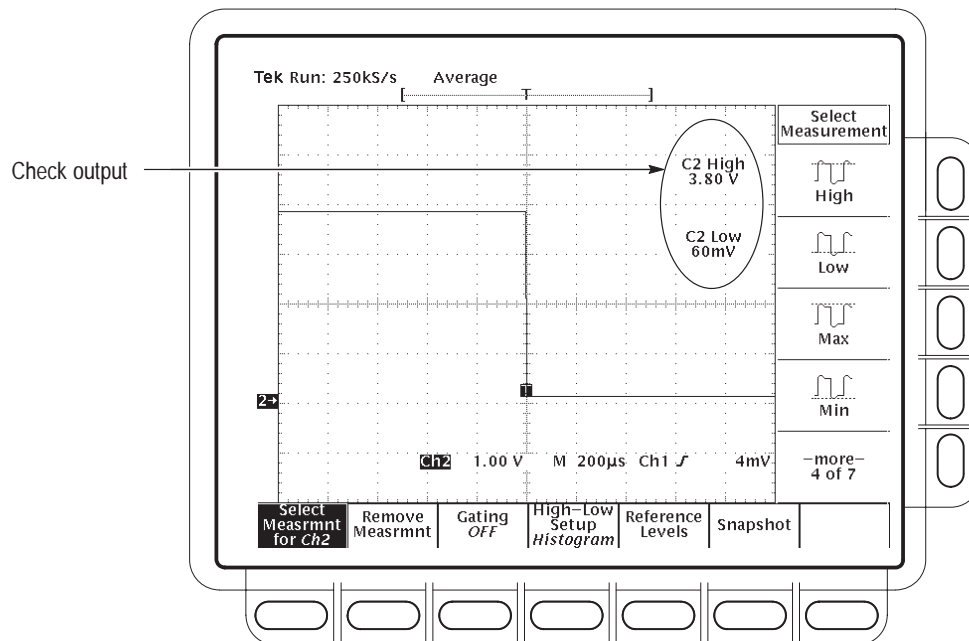

Figure 4–20: Measurement of main trigger out limits
- CHECK that the **Ch2 High** readout is ≥ 2.5 volts and that the **Ch2 Low** readout is ≤ 0.7 volts. See Figure 4–20.
- d. *Check Delayed Trigger output against limits: See Figure 4–20.*